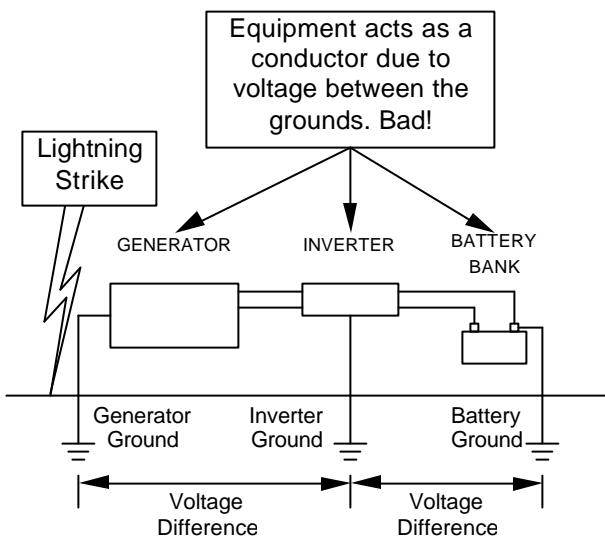

Figure 14, Multiple Point Ground System
**If an electrical system has components grounded at different points in the earth, large voltage differences will exist between these points during a lightning strike (Figure 14, Multiple Point Ground System). If this voltage appears between the AC and DC side of the inverter, it will fail. All Trace inverters are designed to withstand a minimum of 1750 volts between AC and ground, and 500 volts between DC and ground.**